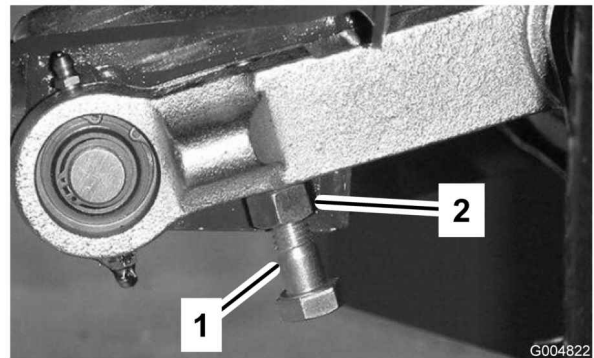

Figure 25
3. To adjust distance, locate adjuster bolt on rear pivot link of cutting unit (Figure 25). Loosen jam nut on adjuster bolt. Loosen or tighten adjuster bolts until 0.38-0.62 inch (10-16 mm) clearance is attained, then tighten jam nut.